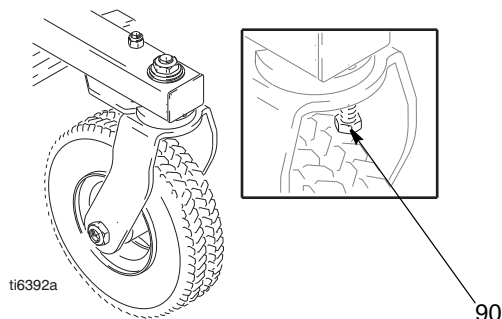

FIG. 1
7. Install screws (34) in drive housing. Torque evenly to note 3 value in Fig. 1.
9. Install front cover (52) with two screws (32).